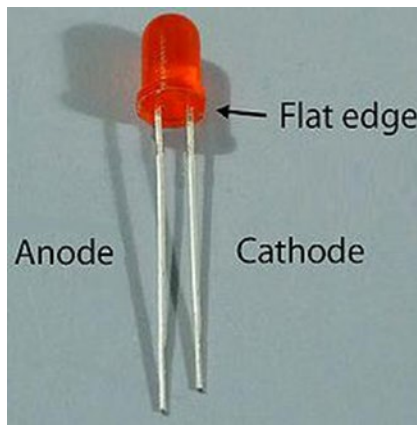

Figure 5-19. Anode and cathode of an LED
- a) LEDs have one lead that is longer than the other (Figure 5-19). This longer lead is the anode, and the shorter one is the cathode. Note that we assumed that the leads have not been clipped.
- b) There is a small flat notch on the side of the LED. The lead that is closer to the notch is always the cathode (Figure 5-19).